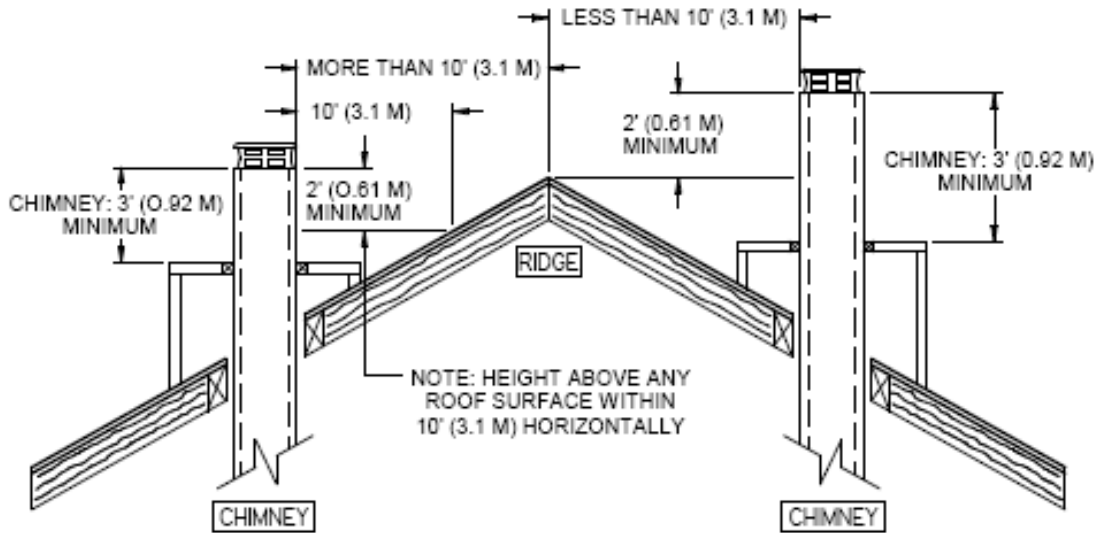

Figure 7c
12. **When you build a chase enclosure for chimney sections above the roof**, the chimney must extend at least 3 ft. (92 cm) above the chase enclosure and at least 2 ft. (61 cm) higher than any wall, roof or building within 10 ft. (3.1 m) of it. See Figure 7c and 7d to determine the configuration that applies to your roof (flat or sloped roof and the distance between the chimney and the highest point of the roof and/or the nearest chimney).